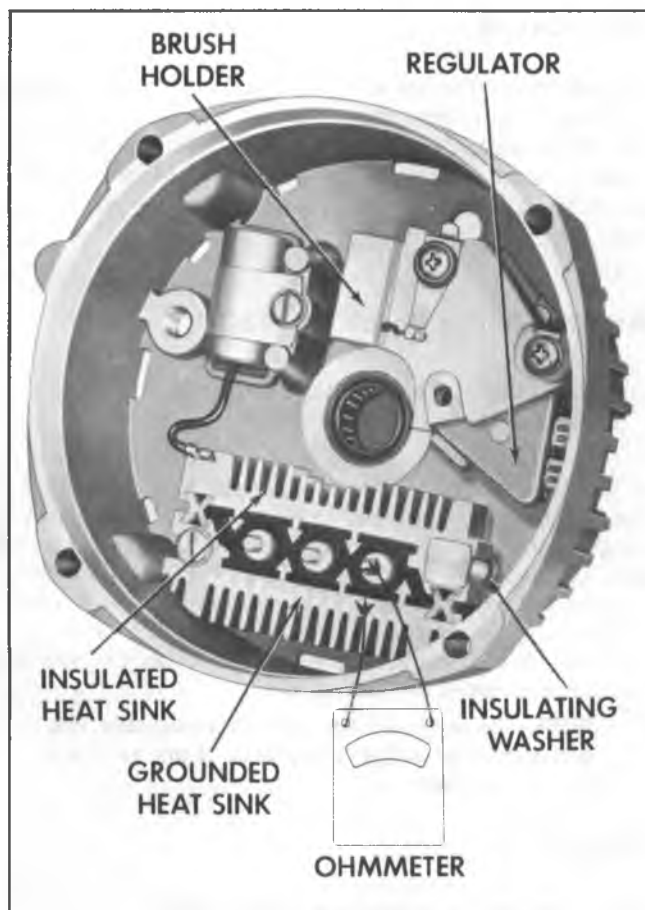

Fig. 13C-Rectifier Bridge Checks
5. Remove nut attaching terminal to rectifier bridge (fig. 13C).
**NOTE:** Observe that only one of the three brush holder retaining screws is insulated (Fig. 13C).
8. Remove retaining screw and capacitor from end of frame (Fig. 13C).
### Rectifier Bridge Check (fig. 13C)
### Brush Holder Replacement (fig. 13C)